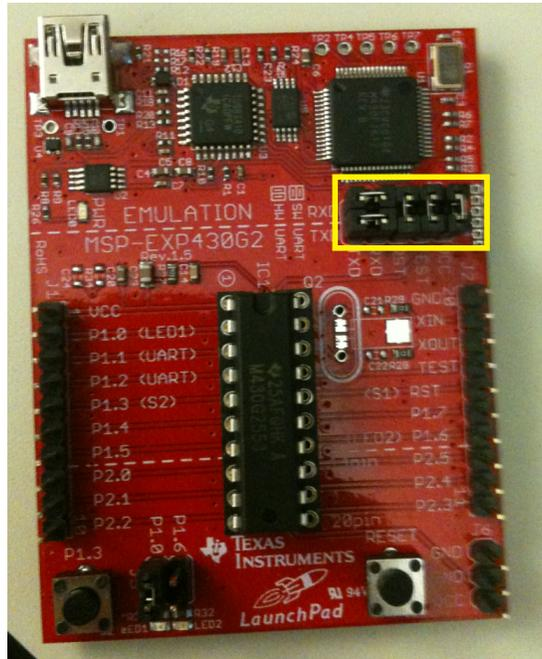

Figure 9. LaunchPad Header Connections
1. With the LaunchPad unplugged, configure the headers on the LaunchPad to match the yellow box in Figure 9.